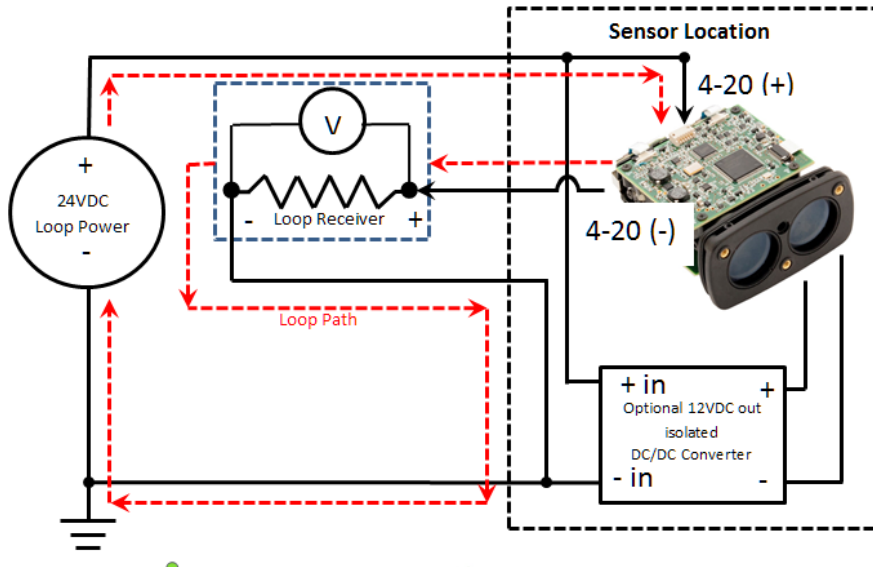

Figure 4
1. **Four Wire:** In this wiring configuration, at the Transmitter location you would have + 24VDC, Common (Ground), Receiver 4-20 (+), and Receiver 4-20 (-). Figure 4 shows leveraging the 24VDC loop power to a DC/DC isolated converter powering the TruSense. The current path for the 4-20 Loop is shown in red. **Important:** The Loop power supply must have a minimum current rating